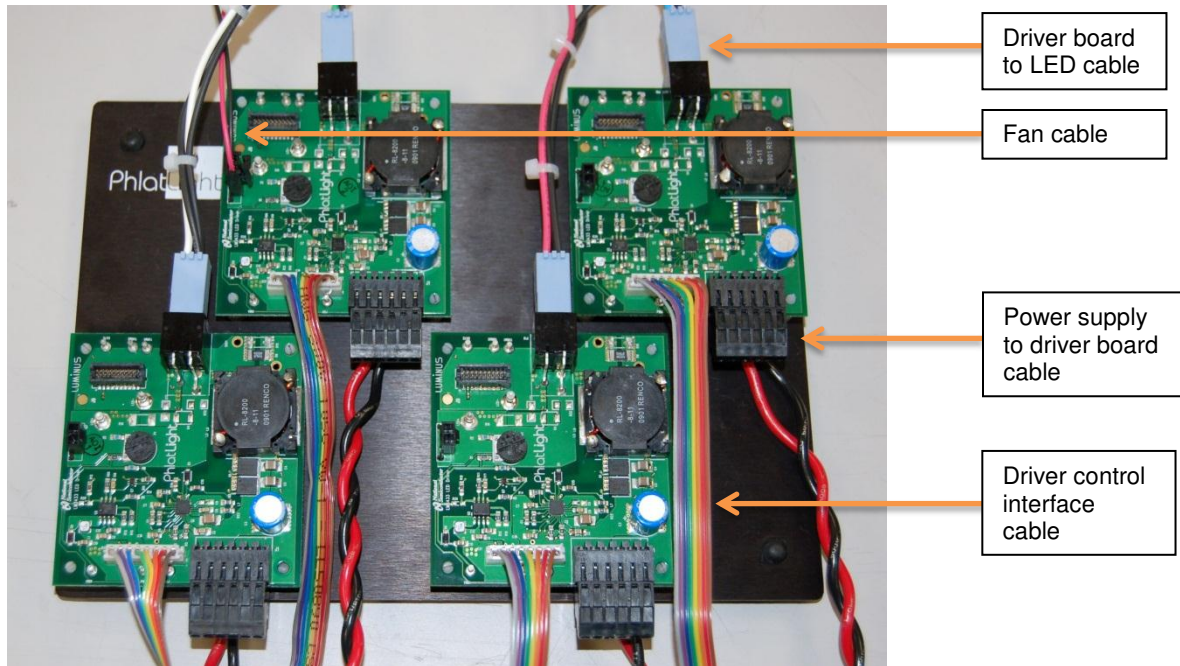

Figure 10: Completed electrical connections on DK-414N-4
2. Connect the driver boards to the LED and the power supply using the cables provided in the kit (Figure 10). Consult Appendix F for the LED electrical pin-out to determine which color each driver board would be controlling. The driver board to LED cable connects to the driver boards at P10 and has thermistor connections from the LED, which can be connected to test points THRM1 and THRM2 on any driver board, if necessary. The short 2-pin fan cable must be connected to one of the driver boards at J10.